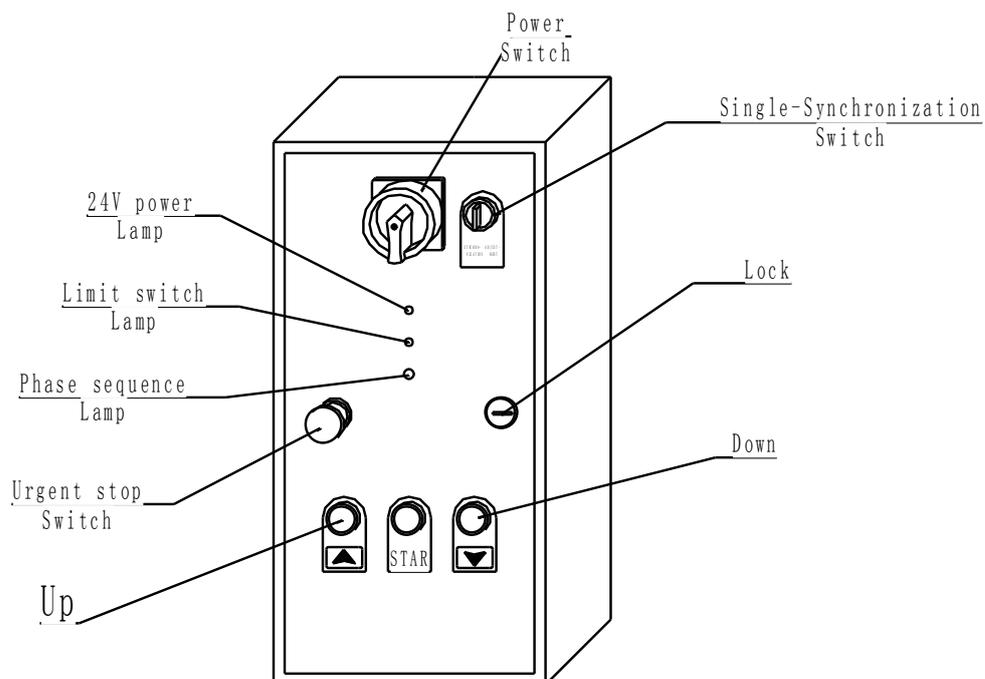
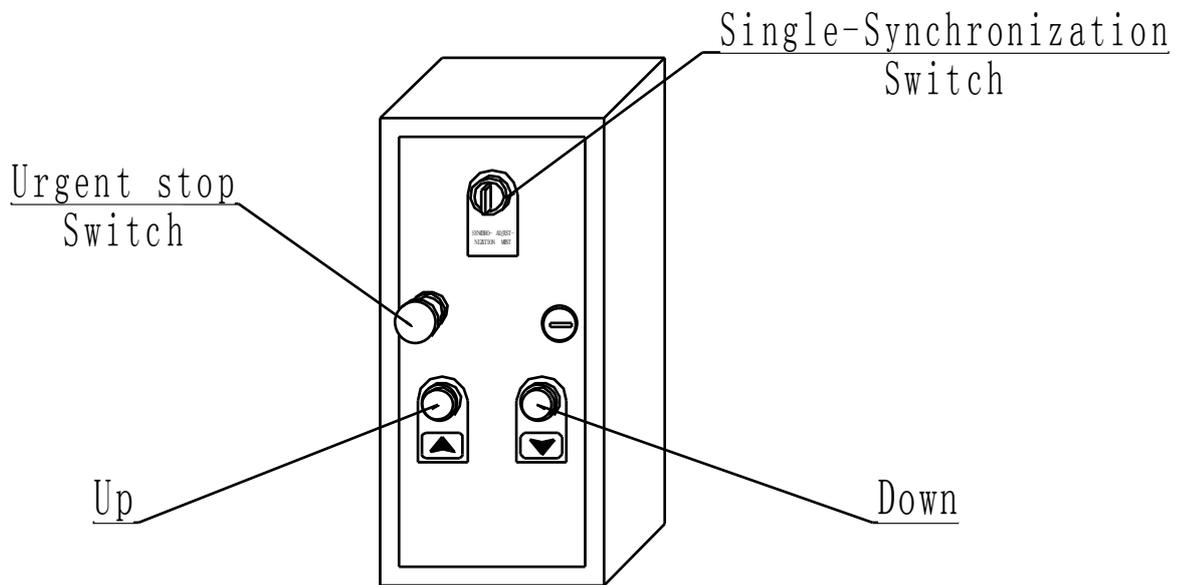

Figure 8 Main electric cabinet
Figure 9 Secondary electric cabinet
**(Fig 8 and Fig 9)**
- Up button (UP)
Each set of the lifter is composed of four vertical posts, each of which is installed with control boxes. One of the control boxes is the main control box (**Fig 8**), and the other three are secondary control boxes (**Fig 9**). Each lifter is composed of four vertical posts, each of which is fixed with control boxes, one is fixed with a main control box (**Fig 8**), the other three are fixed with secondary control boxes (**Fig 9**).